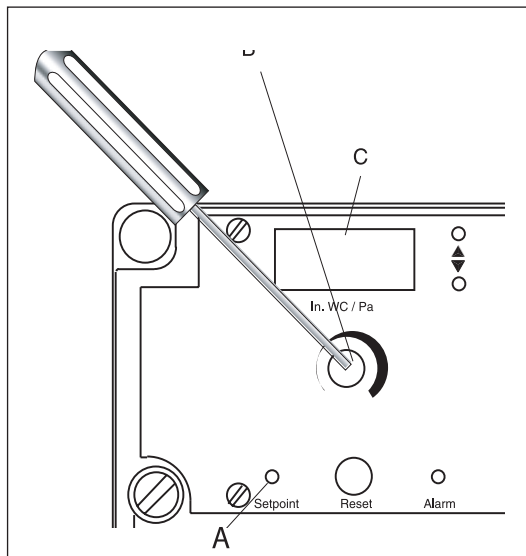

Fig. 12
The display (Fig. 12-C) has two functions:
1. Press the set-point button continuously (Fig. 12-A). The pressure setting will now show on the display.
2. Use a small screwdriver (Fig. 12-B) to set the pressure to 0.01"WC/Pa on the display (Fig. 12-C).